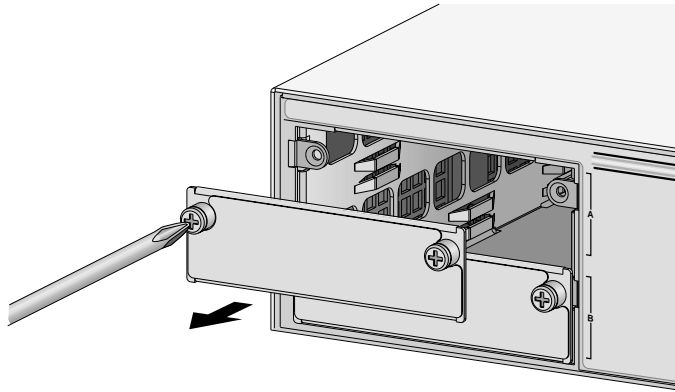

Figure 8 Removing the Blank Panel
2. Remove a blank faceplate from one of the expansion slots by unscrewing the faceplates two captive screws, as shown in Figure 8. Do not remove the blank faceplate if you are not installing an expansion module in the slot.